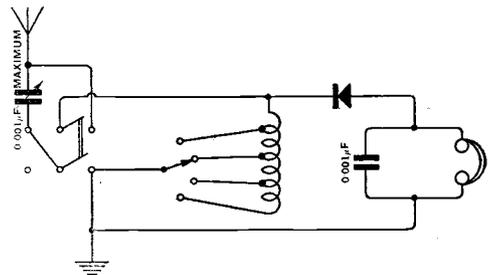

Fig. 2. “A.E.H.” (Willesden). Connections for a simple crystal receiver.
(1) The size of former for the A.T.I. depends upon the wavelength range required. A coil 4' in diameter and 6" long, wound with Nos. 20 or 22 S.W.G. D.C.C. wire and with tapings at every fifteen turns would be useful. As a tuning condenser is used, the fine tapings and switch may be dispensed with. (2) A corrected diagram giving the
values of condensers required is given in Fig. 2. (3) The set should give a wavelength range of approximately 300 to 1,000 metres. (4) Basket coils could be used in this circuit; they would replace the tapped cylindrical coil mentioned above.